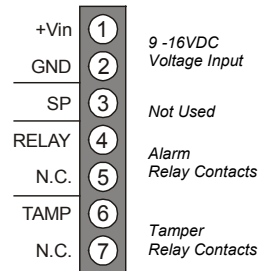

Figure 2: Wiring
6. **Connect the wires** to the terminal block – see Figure 2.